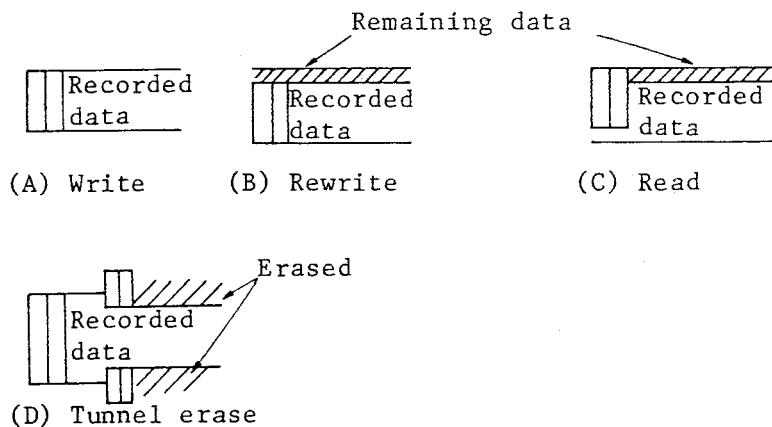

Fig. 2.16 Tunnel Erase System
- (c) Assume that there is no erase head and that data is recorded as shown in Fig. 2.16 (A).
- (d) The disk is then subjected to writing on another FDD. At this time, the head is a bit out of position, and the writing is done as shown in Fig. 2.16 (B).
- (e) When data of (B) is read by the magnetic head shown in Fig. 2.16 (C), the old data (remaining data) shaded in (C) and new data are read in together. The old data causes noise, resulting in read error.
- (f) To provide for head displacement on different FDDs, both sides are erased by an erase head for removal of old data, as shown in Fig. 2.16 (D). In this way, the tracks always contain the latest data and can prevent noise due to remaining data.